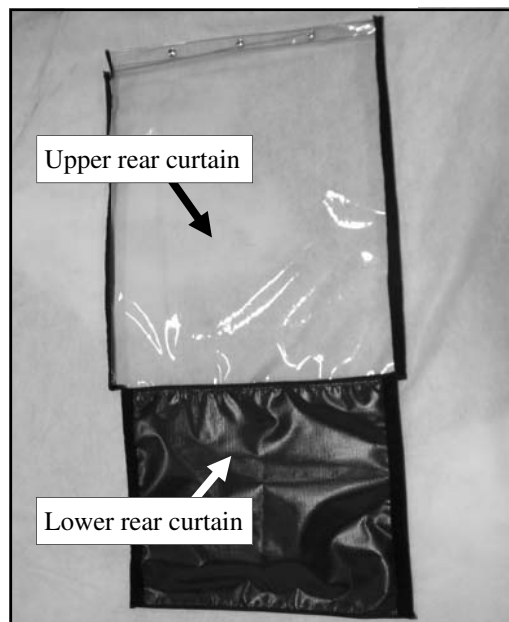

Fig. 4.4 (rear curtain assembly)
4.4 Per fig. 4.4, attach the lower curtain to the upper curtain via the attached Velcro.